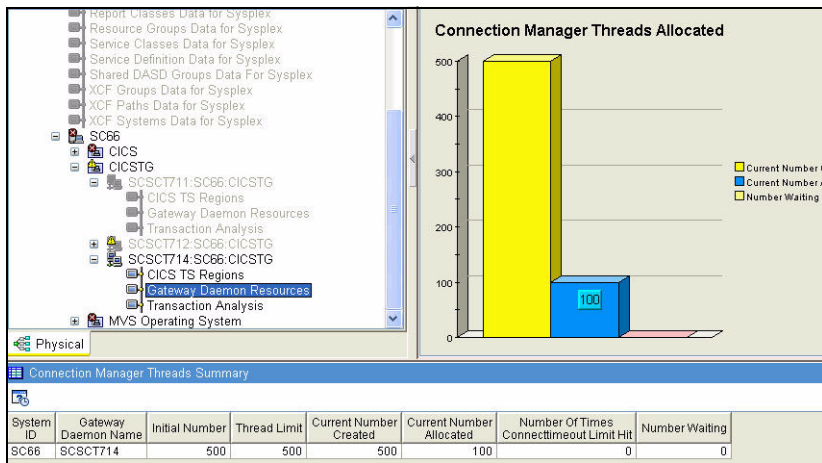

Figure 7-25 Connection Manager threads in use by CICS TG SCSCT714
2. It now had 100 Connection Manager threads allocated (Figure 7-25 on page 258).